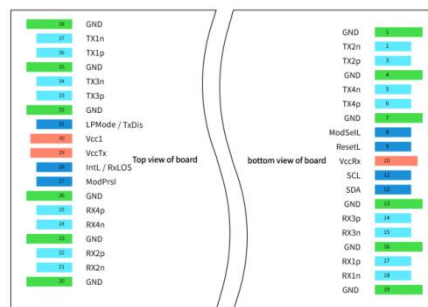

Figure4:QSFP112 Module contact assignment
**Note2:** Vcc Rx,Vcc1 and Vcc Tx are the receiver and transmitter power supplies and shall be applied concurrently. Requirements,defined for the host side of the Host Edge Card Connector,are listed in Table 4.Recommended host board power supply filtering is shown in Figure 4.Vcc Rx,Vecc1and Vcc Tx may be intemally connected within the QSFP112 module in any combination.The connector pins are each rated for amaximum current of 1.5A(max.current of 2.0 Ais required for high module power of15-20W).